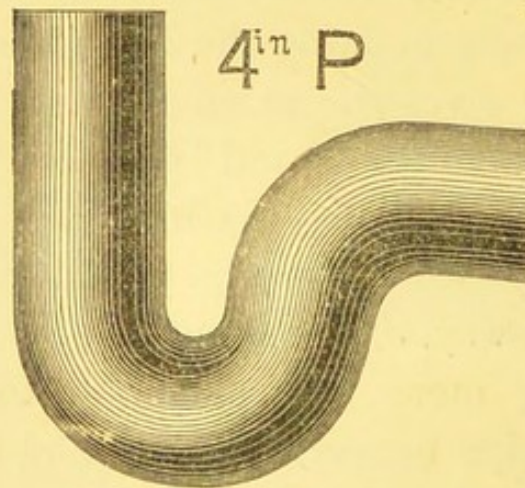
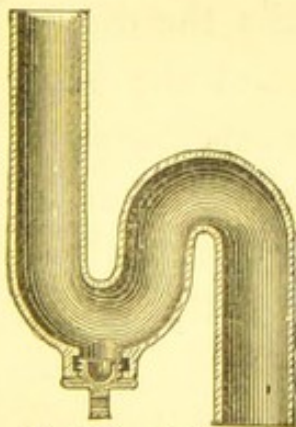

FIG. 7.
FIG. 8. SECTION.
Traps with a cleansing "cap and screw" attached (see Figs. 8 and 9) are always very convenient when fixed to lavatories and sinks, &c. &c., or at the *foot of soil-pipes*; but to water-closets, and places of that kind, they are of no value, for the hand can always get down to the trap through the apparatus. When a trap has a "cap and screw" attached to it, care should be taken to see that this cleansing screw-cap is *below* the water-dip, and on the *house-side of the trap*—*i.e.*, it should be under the level of the water in the trap. Where
*Patent Cast-lead Trap.*—The most self-cleansing lead trap now in use is the patent cast-lead trap, as Figs. 7, 8, and 9: there are no soldered
made by hydraulic pressure. The substance of the lead is regulated, but the strength is equal to milled lead 7 lbs. and 8 lbs. to the superficial foot. It consists simply of a round pipe cast into the shape somewhat of a reaper's hook in the one case, as Figs. 7 and 9; and in the other somewhat of the letter S, as Fig. 8. Figs. 7 and 9 are known in the trade by "P" or "Half S," and Fig. 8 by "S."
A cap and screw are attached to the smaller size traps, as shewn in Sections, Figs. 8 and 9, for cleaning-out purposes, and for unstopping the
waste-pipes on which they are fixed when necessary. The 4-in. trap, Fig. 7, can always have a cap and screw soldered to it when fixed in places where the hand cannot be put into the inlet, or dip-part, of the trap; but this can always be done when they are fixed under a water-closet or slop-sink, and also when there is a 4½-in. rim and grate